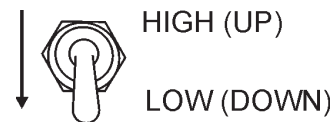

Figure 73. Engine Speed Switch (Low)
2. Place the engine speed switch in the "LOW" position (Figure 73).